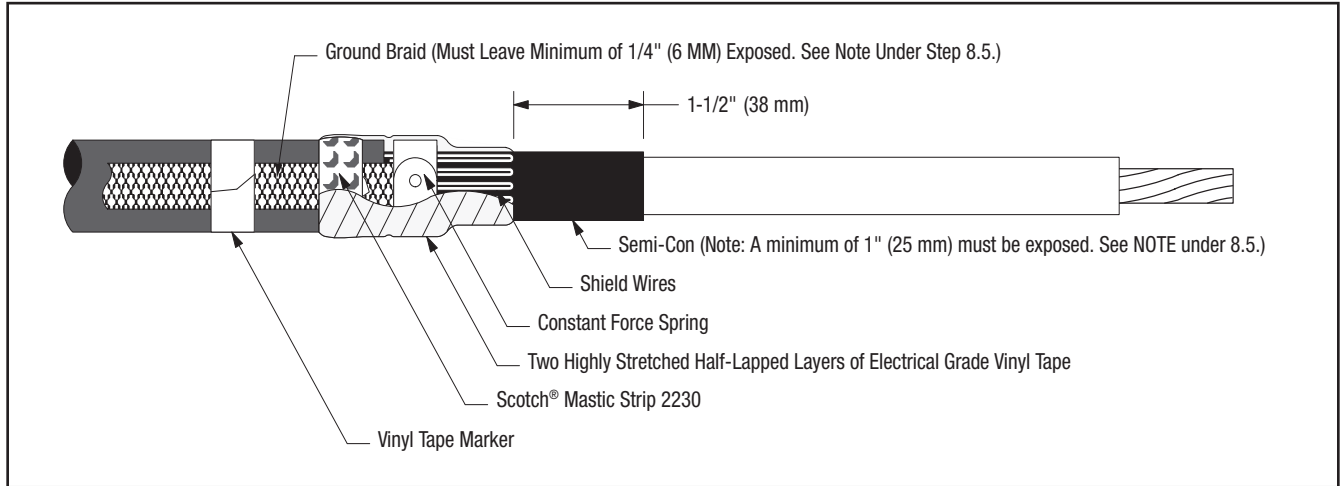

Figure 13
8.5 Wrap two highly stretched half-lapped layers of electrical grade vinyl tape around mastic seal, constant force spring and exposed shield wires (Figure 13).